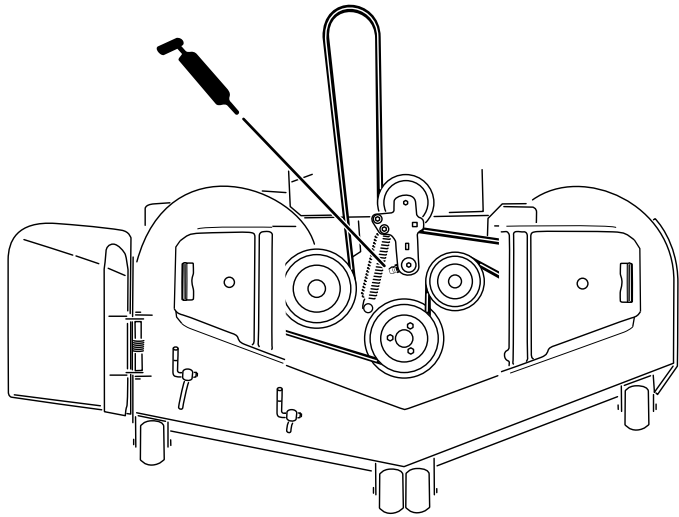

Figure 41
3. Grease the mower deck idler-pulley pivot until grease comes out the bottom (**Figure 41**).